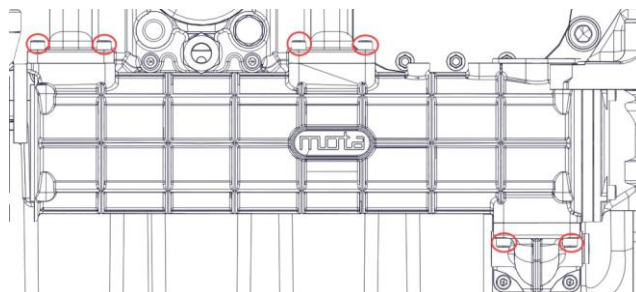

Figure 154-2.
3. Remove all oil cooler assembly mounting bolts (Figure 154-2).